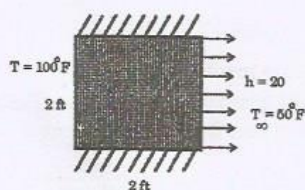

Fig. 6
16. a) For the 2-D body shown in Figure 6, determine the temperature distribution. The temperature at the left side of the body is maintained at  $100^\circ\text{F}$ . The edges on the top and bottom of the body are insulated. There is heat convection from the right side with convective coefficient  $h = 20 \text{ Btu/h-ft}^2\text{-}^\circ\text{F}$ . The free stream temperature is  $T_\infty = 50^\circ\text{F}$ . The coefficients of thermal conductivity are  $K_{xx} = K_{yy} = 25 \text{ Btu/h-ft-}^\circ\text{F}$ . The dimensions are shown in the figure. Assume the thickness to be 1 ft.